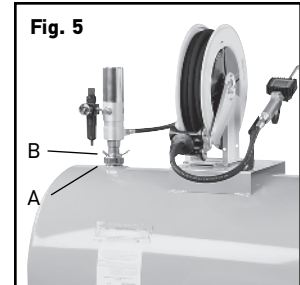

Fig. 5
- Attach bung adapter to 2" tank opening, fig. 5, item A
- Slide the assembled pump into bung adapter and tighten wing nut, fig. 5, item B, to secure pump at the desired height.